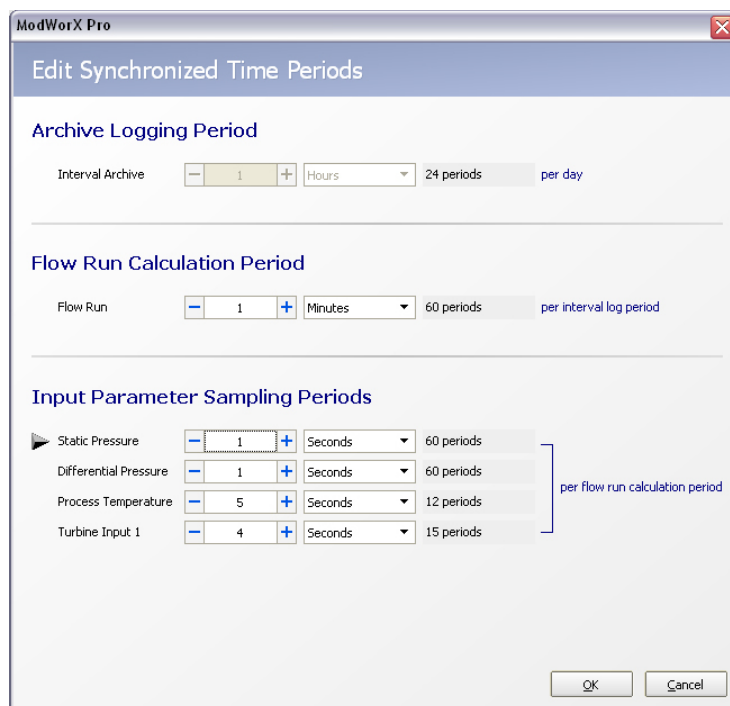

Figure 6.9
- i. Click **Edit**. The Edit Synchronized Time Periods dialog will appear, and an arrow will point to Static Pressure (Figure 6.9).